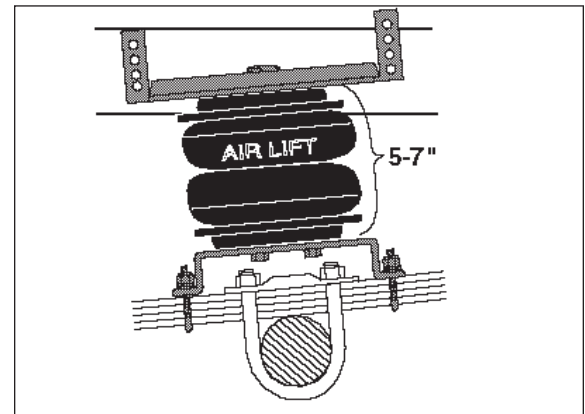

Figure 6
4. Align the assembly vertically and horizontally. The distances between points X and Y (Figures 6 and 7) should be approximately equal, between 5 and 7 at normal ride height.